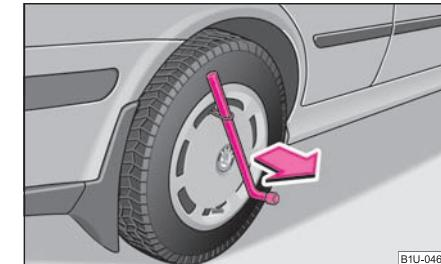

Fig. 160 Removing the full wheel trim
- Push the wheel wrench* through the clamp, support the wheel wrench at the tyre and pull off the wheel trim ⇒ fig. 160.